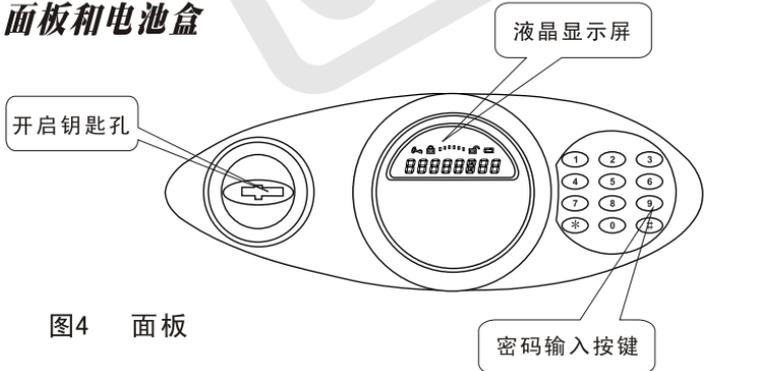
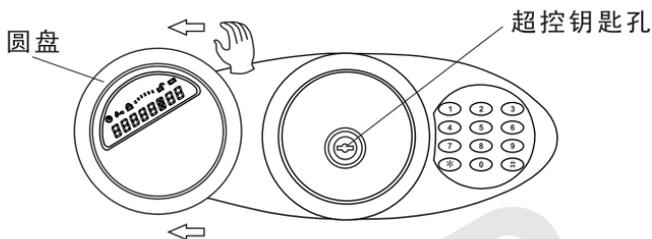

图4 面板
图6
- 按照第8页图6所示，逆时针  旋转面板上的圆盘并取下，可看见后面的超控钥匙孔，再按照第5页图3所示，先将超控钥匙插入超控钥匙孔并逆时针  转动到位，然后将主钥匙插入第5页图4所示的开启钥匙孔，顺时针  转动到位，将保管箱门打开。（G1-410、G1-510、G1-610、G1-710型保管箱需顺时针  转动圆形执手后，方可开启保管箱门。）
- Turn the LCD mounting disc counterclockwise and remove it from the panel (Figure 6, P.8 in User's Manual). Locate the override keyhole behind the disc. Insert the override key (Figure 3, P.5 in User's Manual) into its keyhole and turn it counterclockwise to the end, then insert the lock key into the door-opening keyhole (Figure 4, P.5 in User's Manual) and turn it clockwise to the end to open the door. (Model G1-410, G1-510, G1-610 and G1-710 need to turn the knob clockwise to open the door.)
请将保管箱的主钥匙插入面板上的开启钥匙孔（见图3和图4）；